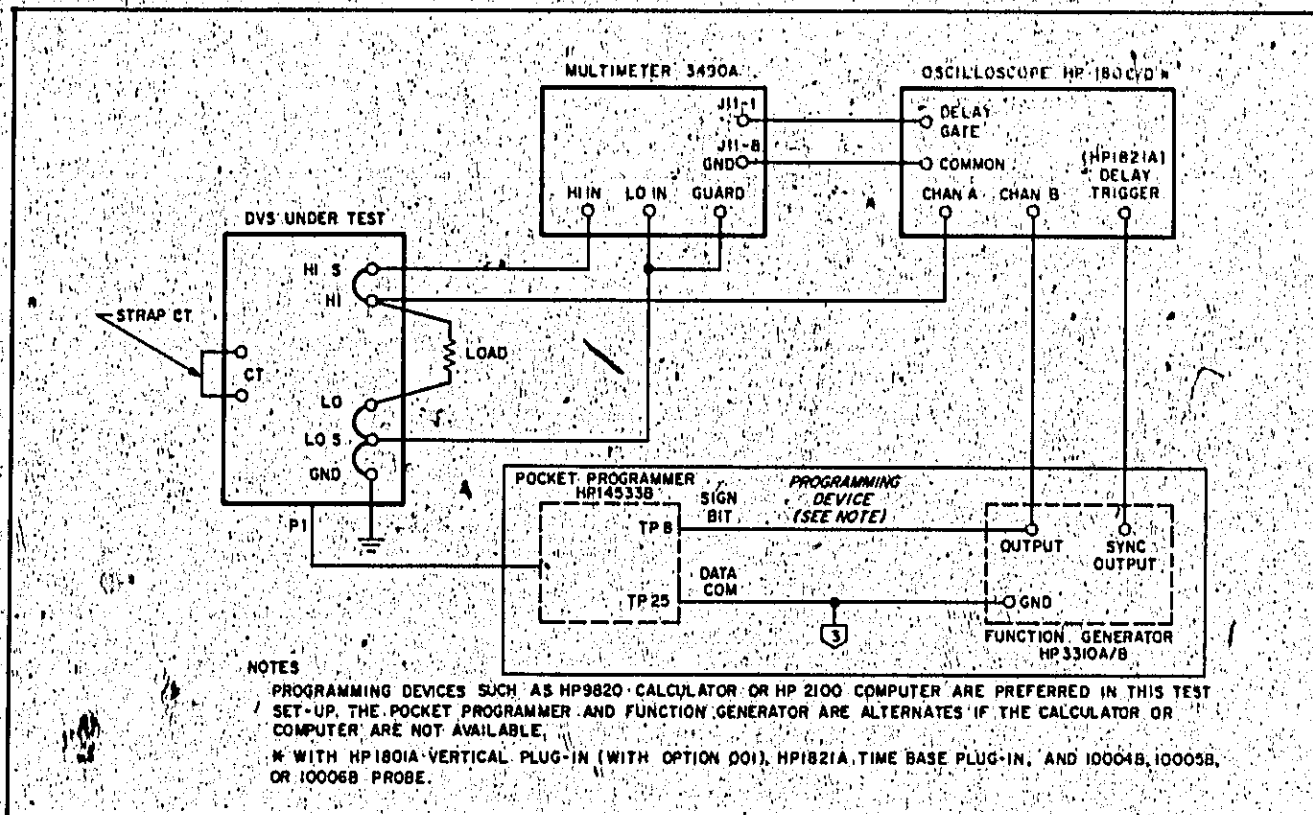
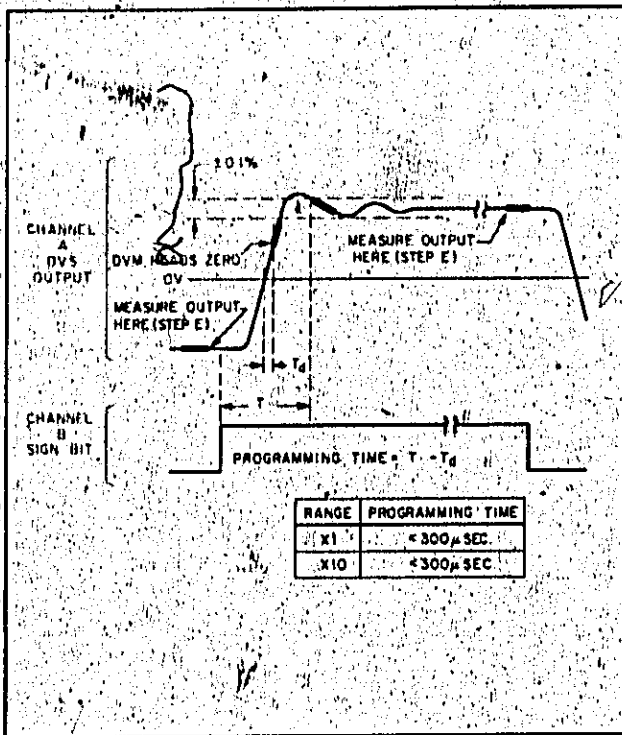

Figure 5-2. Programming Time Test Setup
Figure 5-3. Programming Time Waveforms
5-24 Equal positive and negative output voltages cannot be obtained by simple switching the position of the polarity switch; negative numbers must be programmed in the 2's complement form. For this reason, a computer or calculator would be the easiest means to obtain the equal positive and negative numbers necessary to perform this test. To perform this test for "worst case" result, use the test setup in Figure 5-2 employing the computer or calculator recommended. Program the computer or calculator so that it will program the DVS between +16.3835 and -16.384 volts and between +50 and -50 volts. The observed waveform should be within the tolerance of Figure 5-3. If the computer or calculator is not available, use the Pocket Programmer and Function Generator (see Figure 5-2) as the programming device and proceed as follows:
- e. Measure the voltage just prior to the waveform transitions (see Figure 5-3). Voltage reading should be within 0.1% of ΔV_{OUT} .